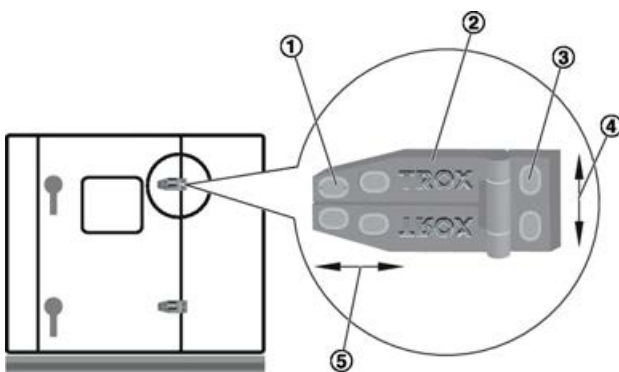

Fig. 41: Adjusting the door
- 1 ▶ Remove the hinge covers (Fig. 41 /1).
- 2 ▶ Loosen the screws of all hinge brackets (Fig. 41 /2) of a door.
- 3 ▶ Adjust the door horizontally (Fig. 41 /5).
- 4 ▶ Tighten the screws of the hinge brackets (Fig. 41 /2).
- 5 ▶ Loosen the screws of all hinge blocks (Fig. 41 /3) on a door.
- 6 ▶ Adjust the door vertically (Fig. 41 /4).
- 7 ▶ Tighten the screws of the hinge blocks (Fig. 41 /3).